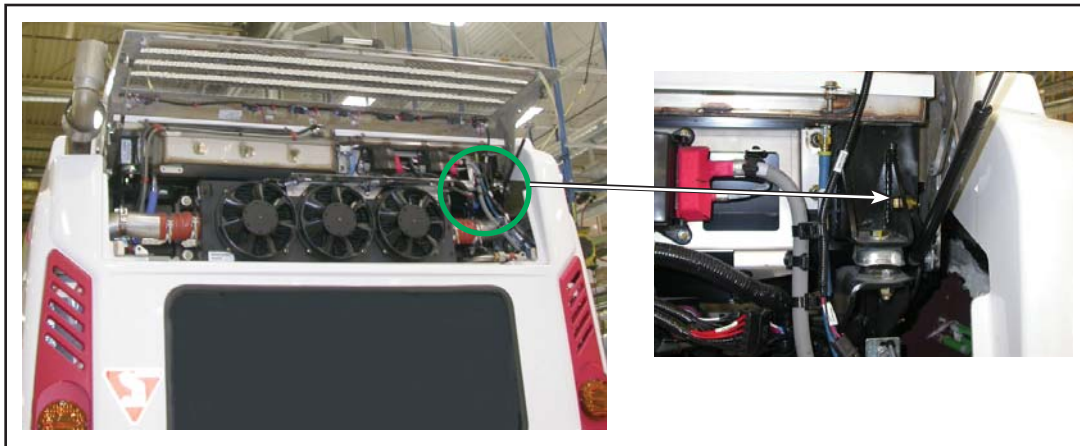

Figure 1 - Radiator Frame Ground Cable Location
- 1.2. Locate the radiator frame ground cable. See Figure 1.